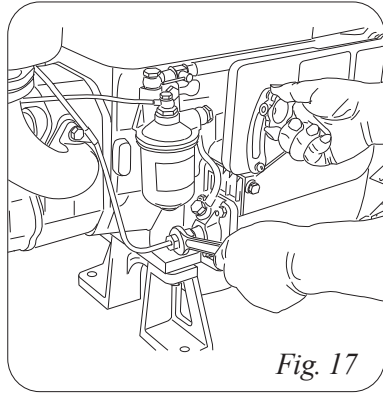

Fig. 17
4.9.1 Unload the engine and let it rum idle for a while. Then move the speed-control lever knob to the "STOP" position, loosen the connecting nuts on high-pressure fuel pipe (Fig. 17) or open the decompress or to stop the engine running at once if abnormal sound is heard suddenly or flying running occurs. The engine will then stop running.